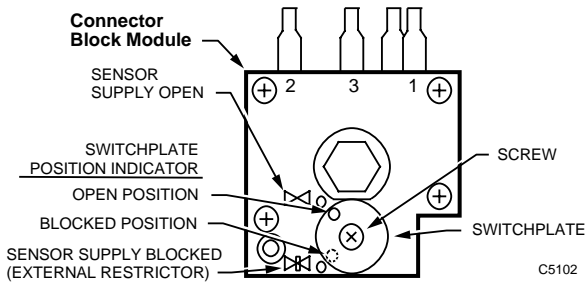

Fig. 3. Primary sensor air supply.
- a. Loosen the screw one turn (Fig. 3) and rotate the switchplate (light grey) 90 degrees counterclockwise to the sensor supply blocked position.